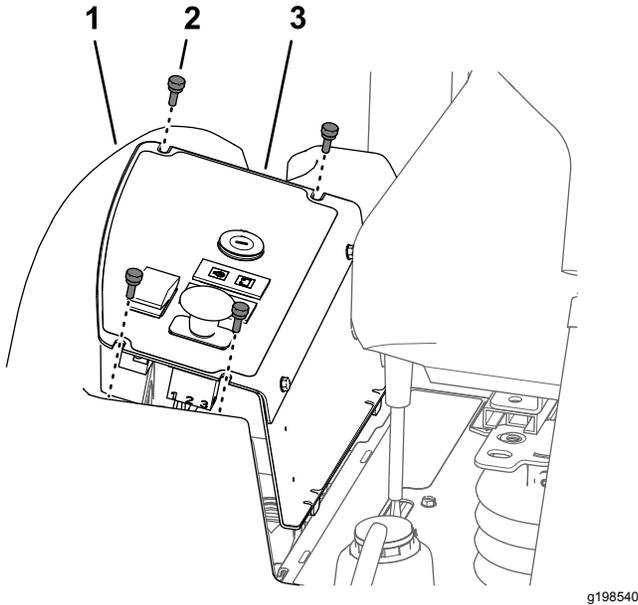

Figure 55
1. Remove the 4 thumb screws that secure the control-panel plate to the fuel tank (Figure 55).
2. Lift up the control-panel plate (Figure 55).
3. Align the slots in the top of the control-panel plate with the holes in the flange of the fuel tank (Figure 55).
4. Assemble the control panel plate to the flange of the fuel tank with the 4 thumb screws (Figure 55) that you removed in step 1 of Removing the Control-Panel Plate (page 51).